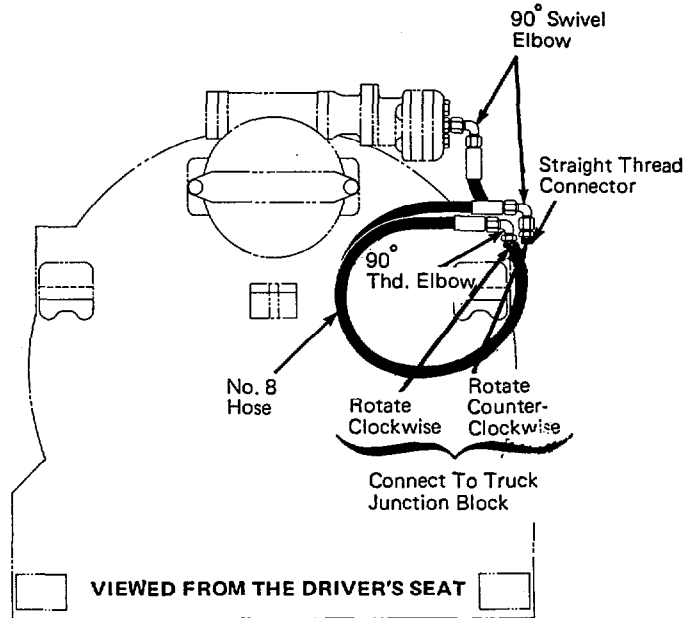

Figure 1. Plumbing Diagram for R3R, R4R, and R6R
use hoses and fittings as shown in Figure 1 or 2. Be careful not to twist, pinch, or otherwise damage the hoses.
- 3 Connect the hoses to the attachment as shown in Figure 1 or 2 on page 4-3.